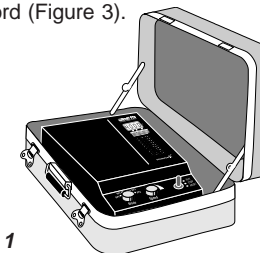

Figure 1
1. Redi-Flo Variable Frequency Drive, SI/MP1-115/230V (See Figure 1)